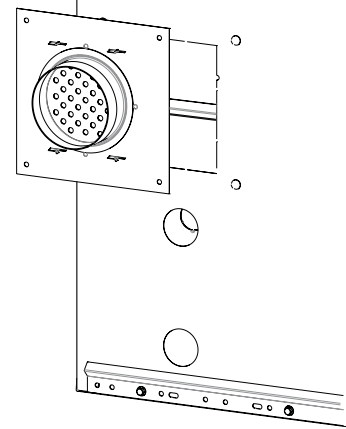
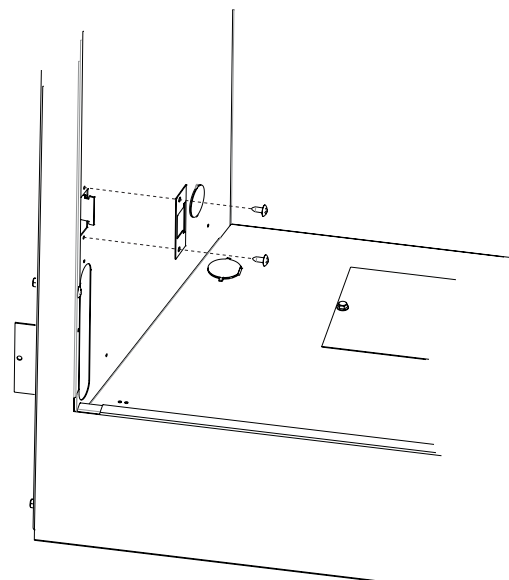

Figure 3
Figure 4
3. Insert Slide Assembly through the cut-out as shown in Figure 3. Before you fasten ensure that the handle penetrates the inner firebox wall. See Figure 4. Fasten the Slide Assembly with the four 10 x 1/2 Hex Head Screws provided.
4. Fasten the Handle Retainer to the firebox side with two 10 x 1/2 Phillips Truss Head Screws as shown in Figure 4.